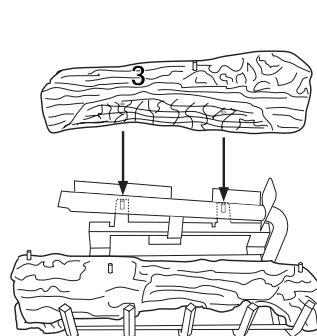

Figure 46 - Installing Log No. 3
3. Place log #3 (rear log) onto pins on rear of grate as shown in Figure 46.